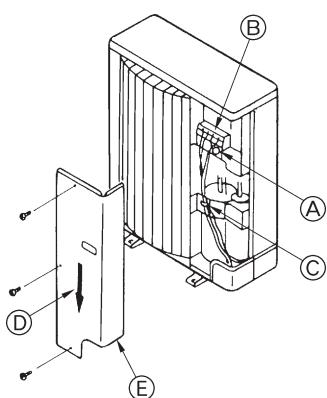

Fig. 6-2
6.2. Outdoor unit wiring (Fig. 6-2)
- (A) Earth terminal
- (B) Terminal block (Left: Power supply, Right: Indoor/Outdoor unit connecting wire)
- (C) Fasten with wiring clamp
- (D) Extraction direction for service panel
- (E) Service panel